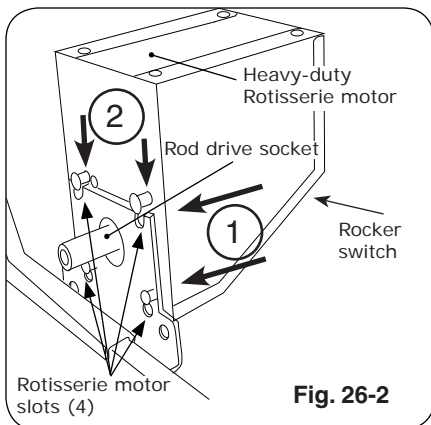

Fig. 26-2
12. Plug-in the rotisserie motor and press the rocker switch to start (Fig. 26-2).